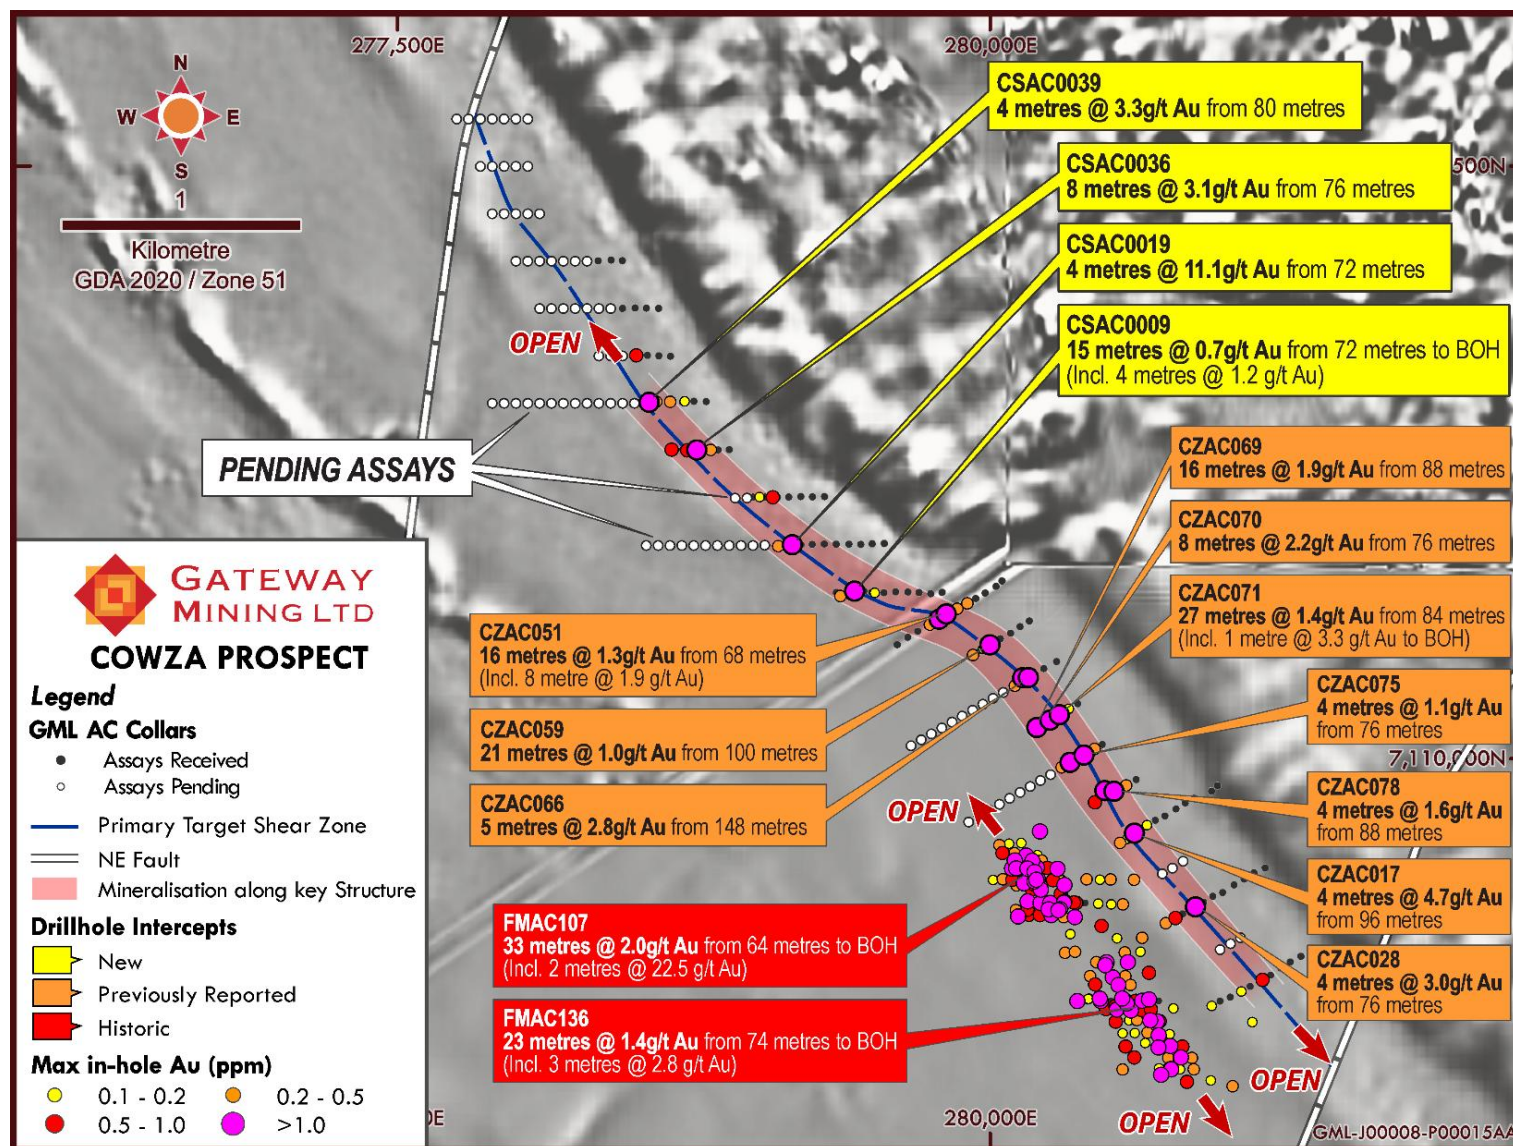

Figure 1: Plan view of the growing Cowza mineralisation footprint. Drilling to date has now confirmed a high-grade strike of over 3.5 kilometres.
- Further step-out drilling at the recent Cowza discovery has returned additional consistent high-grade gold intercepts across each drill line (Figure 1), including: